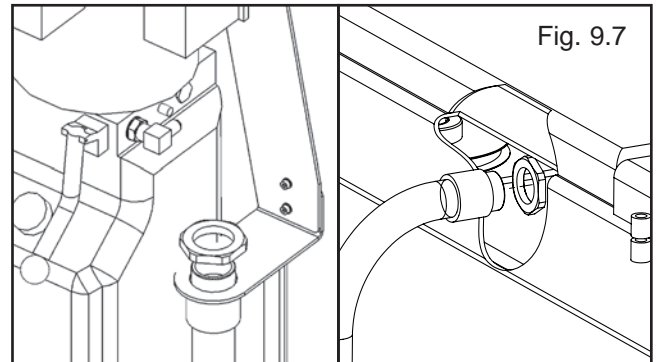

Fig. 9.7
6. Install the end of Flex Hose with the Straight Fitting on the Hydraulic Hose into the hole in the Powerside Runway adjacent to the Power Unit. Install the end of the Flex Hose with the 90° Fitting on the Hydraulic Hose in the Flex Hose Bracket Assy. Tighten the plastic nuts securely. (See Fig 9.7)